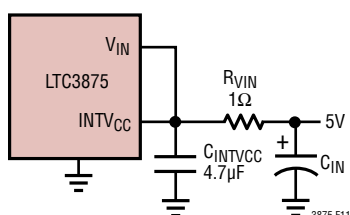

Figure 11. Setup for a 5V Input
For applications where the main input power is below 5V, tie the VIN and INTVCC pins together and tie the combined pins to the 5V input with a 1Ω or 2.2Ω resistor as shown in Figure 11 to minimize the voltage drop caused by the gate charge current. This will override the INTVCC linear regulator and will prevent INTVCC from dropping too low due to the dropout voltage. Make sure the INTVCC voltage is at or exceeds the RDS(ON) test voltage for the MOSFET which is typically 4.5V for logic level devices.